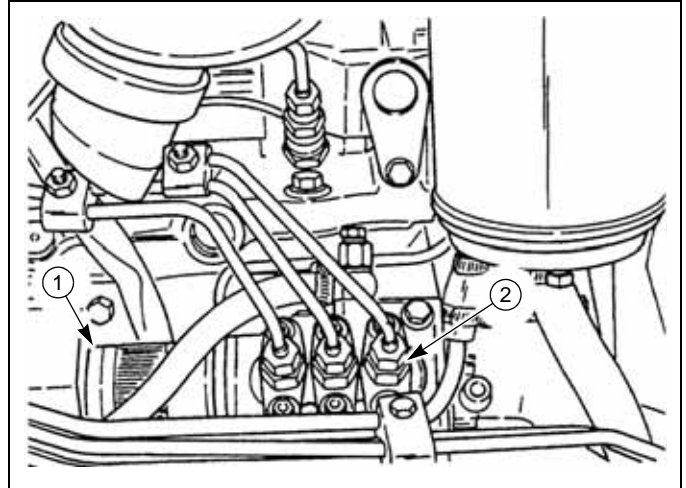

Fig. 5-1
3. Using a pair of pliers, carefully remove the fuel shutoff solenoid, ① (page 5-1, Fig. 5-1), from the engine.